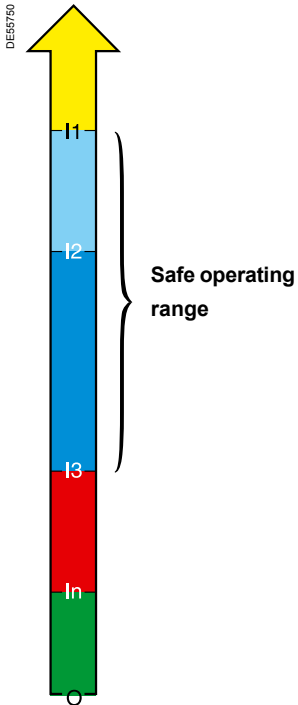

Figure 1: definition of a fuse's operating zone.
**Figure 1 shows the operating ranges of combined type fuses.**